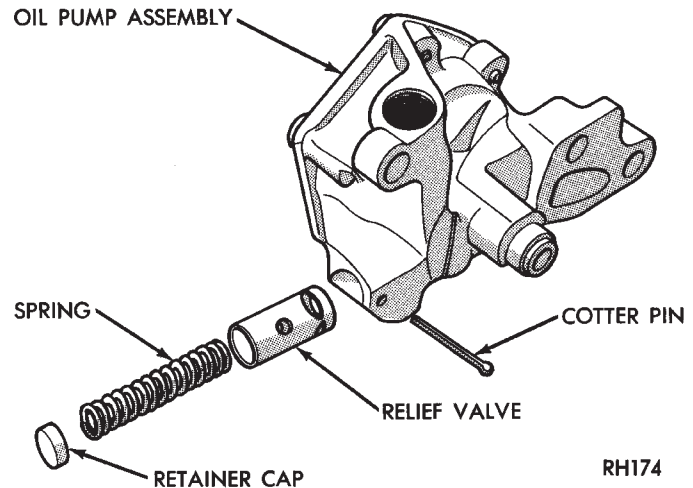

Fig. 58 Oil Pressure Relief Valve
- (1) Remove the relief valve as follows:
- (b) Clamp screw into a vise and while supporting oil pump, remove cap by tapping pump body using a soft hammer. Discard retainer cap and remove spring and relief valve (Fig. 58).